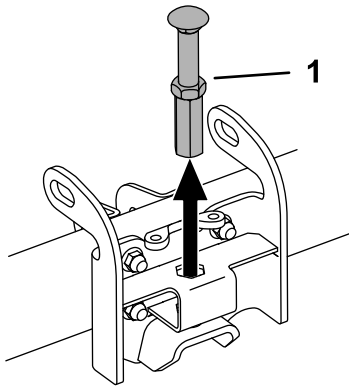

Figure 19
13. Install the stop assembly as shown in Figure 19 or store it in a safe location.